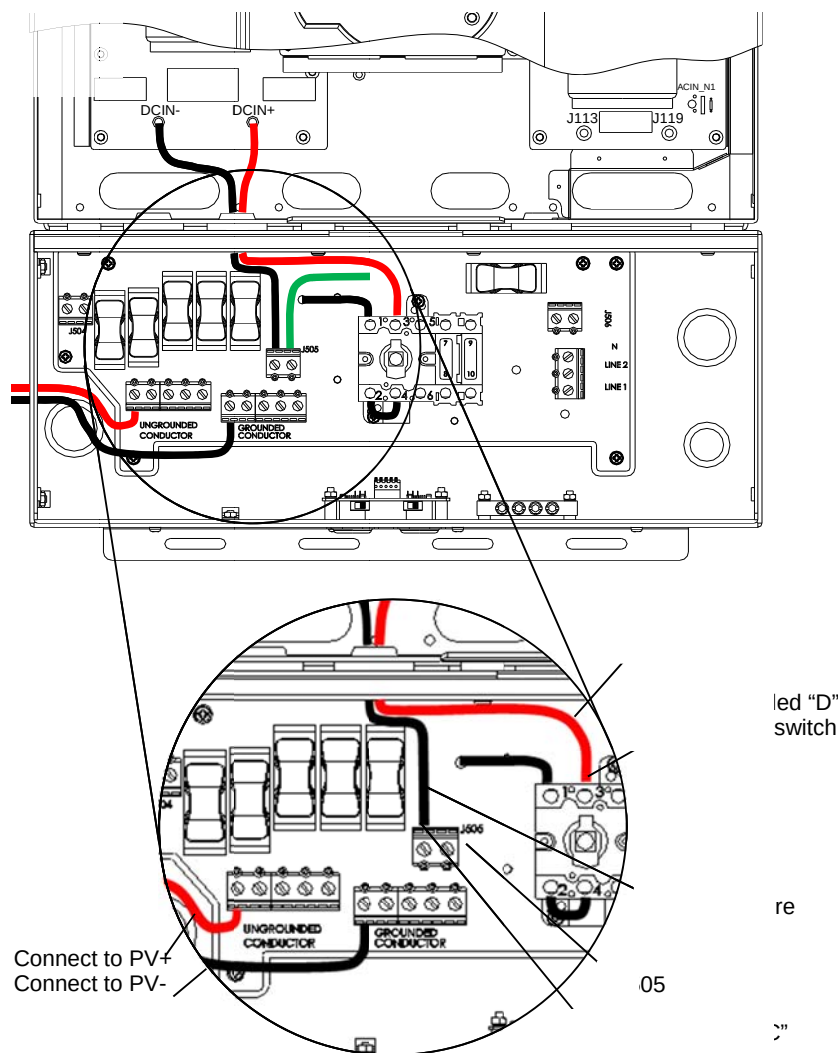

Fig 2.5.1.1 DC Terminal blocks and connections using string fuses for negatively grounded systems
There are two (2) terminals, labeled “Ungrounded Conductor” and “Grounded Conductor”, located in the wiring box used for the DC connections as shown in Figure 2.5.1.1. The DC equipment ground wire shall be connected to a screw on the ground bar labeled  in the wiring box of the PVI 6500/7500 inverter. All the screws shall be tightened with a torque of 15.6 in-lb (1.7Nm).
The inverter is shipped with a negatively grounded setting (factory default). The positive polarity of the DC input voltage from the PV string shall be connected to the terminal labeled UNGROUNDED CONDUCTOR and the negative polarity of the DC input voltage from the PV string shall be connected to the terminal labeled GROUNDED CONDUCTOR as shown in the figure 2.5.1.1 below.